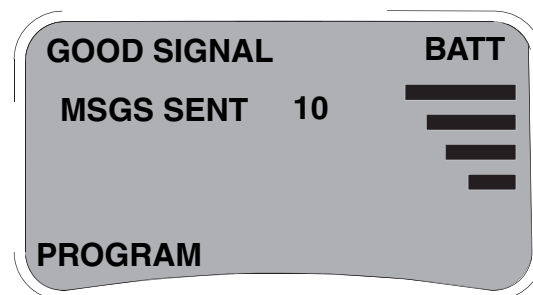

FIG. 6
2. Once the series of ten signals is complete the Signal Tester screen will display the results as either a GOOD SIGNAL or BAD SIGNAL. See FIG. 6.